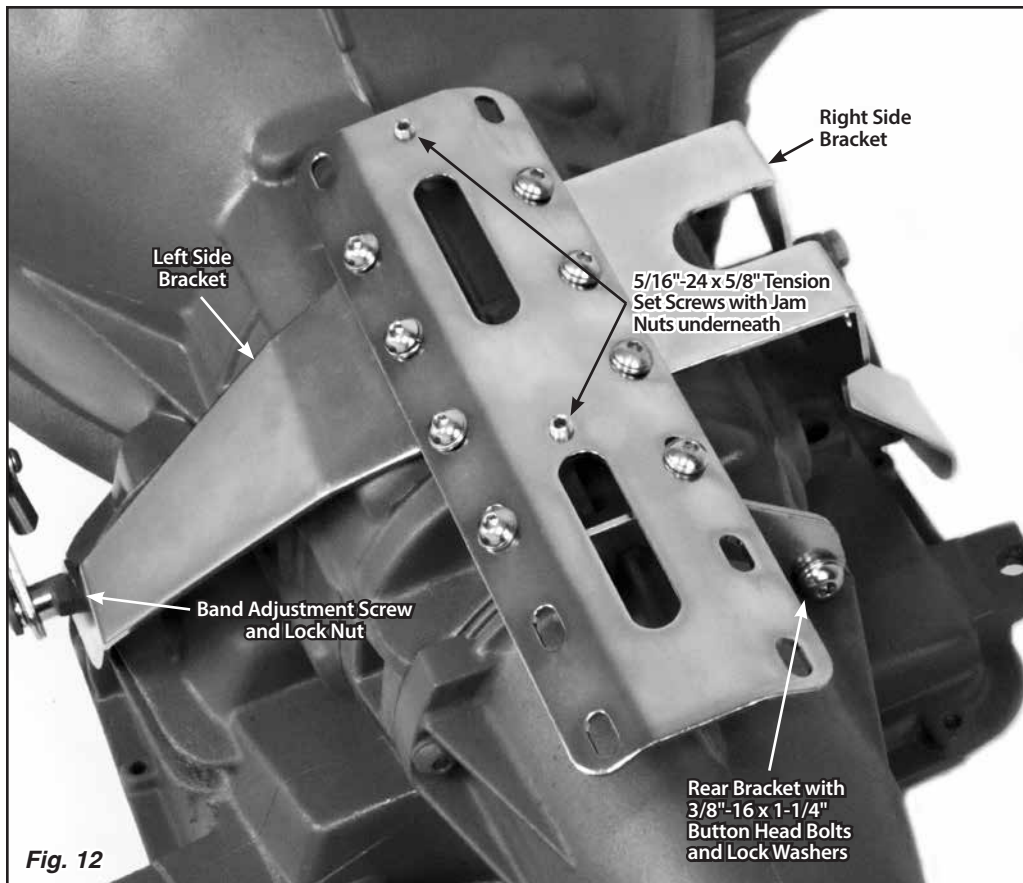

Fig. 12
**Step 14:** Place a small amount of silicone sealer around the band adjustment screw. Install the mounting bracket assembly onto the transmission by first placing the left side bracket over the band adjusting screw. Then, position the right side bracket over the servo cover bolt hole, and install the servo cover bolt you removed earlier. Install the original lock nut back onto the band adjustment screw. **Again, be sure that you do not change the adjustment!** Fig. 12